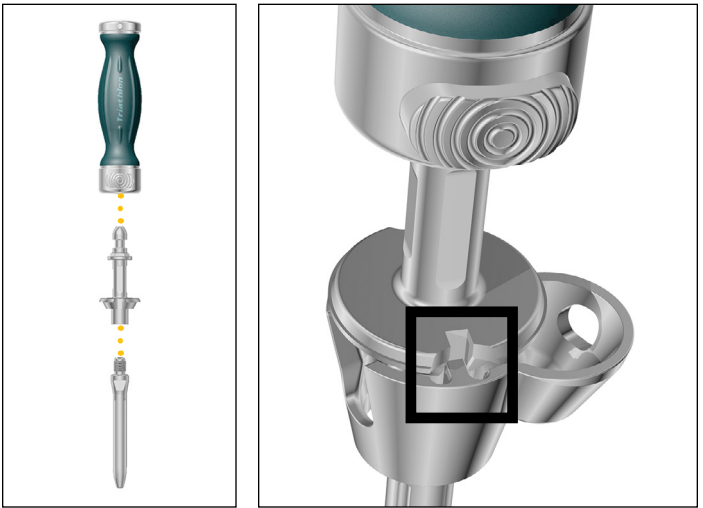

Figure 104
- Align the orientation key on the trial with the key feature on the Cone Introducer. The orientation key is located posteriorly on the trial. See **Figure 103** (Symmetric) and **Figure 104** (Asymmetric).